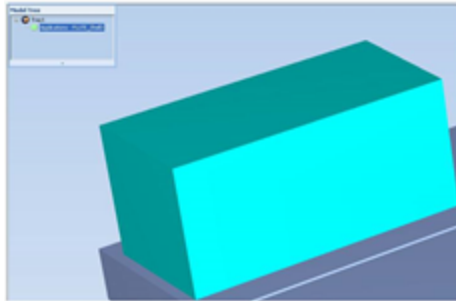

Figure 5-51 Model displayed with bounding box
- With a *Bounding Box* (see Figure 5-51 on page 5-43)